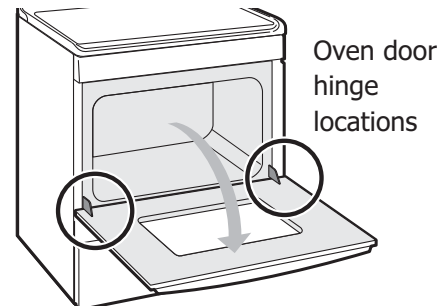

Figure 41: Door hinge location
1. Open oven door completely, horizontal with floor (See Figure 41).
3. Fully open the oven door, horizontal with floor (See Figure 41).